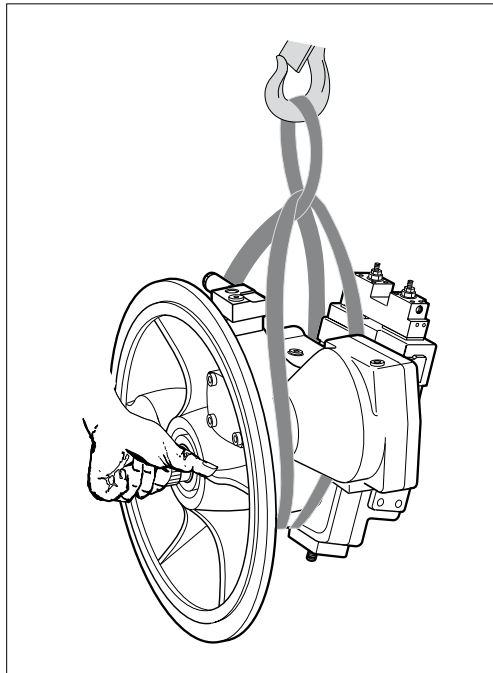

Fig. 7: Transport with lifting strap
- Place the lifting strap around the axial piston unit in such a way that it passes over neither the attachment parts (e.g. valves) nor such that the axial piston unit is hung from attachment parts (see Fig. 7).